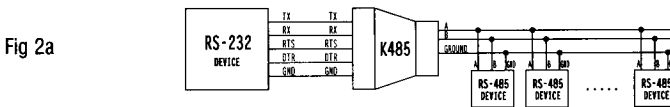

Fig 2a
**2-wire RS-485 only:** because *all* the devices are attached to a *single* bus, all devices (including the Master) must have tri-state capability. Only the **K485** may be used in this system. The Master RS-232 device must control the RS-232 RTS signal to properly control the K485 driver. In the unusual case where the Slaves are RS-232 devices, a K485 must be used on each Slave, and again each Slave device must control its RS-232 RTS signal to control its K485 driver. See Fig 2a.